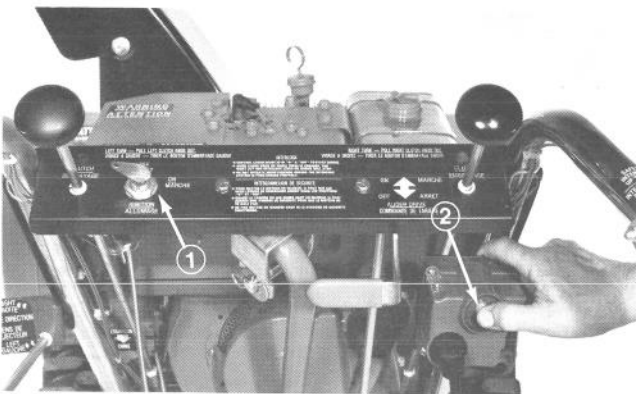

Figure 9
2. Place all controls in the neutral position. Place throttle control in the start position, turn ignition switch to 'ON', choke engine and push on the switch to start snowthrower (Fig. 9).